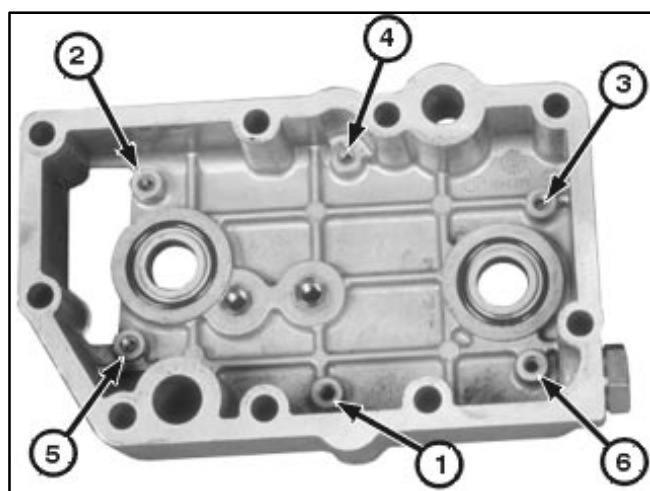

FIGURE 7-27. TORQUE SEQUENCE
2. Install the cooler in its housing. Apply LOCK-TITE® 242 Thread Lock and Sealer to the six Allen head cap screws and thread them in by hand to secure the core in the housing. Torque the screws to 12 N-m (106 lb-in) in the sequence shown in Figure 7-27.